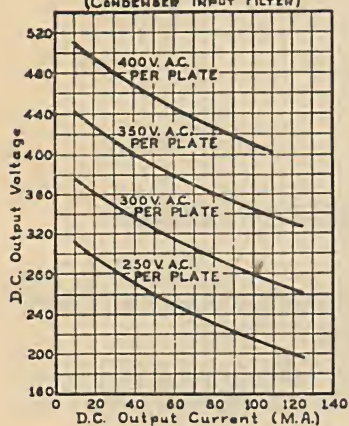

Fig. 3
**Output Characteristics**—Fig. 3 shows the relation of load current to the rectified voltage at various plate voltages when using a condenser input filter.